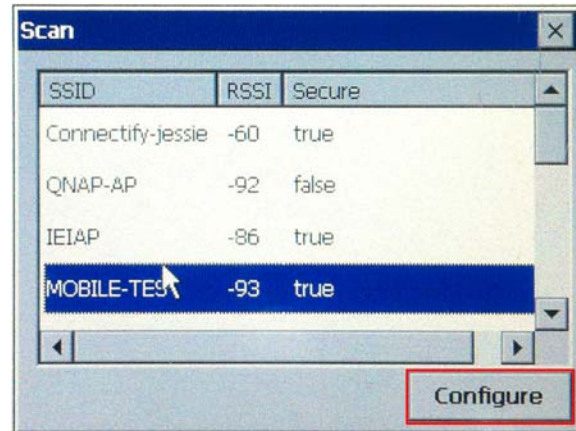

Figure 4-21: Laird Connection Manager – Scan
Step 3: The Scan window appears with a list of available Wi-Fi networks (**Figure 4-21**). Select one of the Wi-Fi networks and click **Configure**.